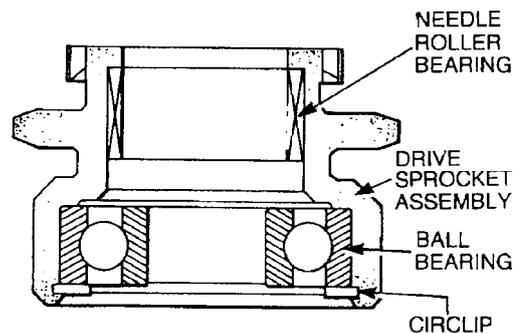

Figure 202 Installing Drive Sprocket Bearings
- h. Press the needle roller and the ball bearing in the drive sprocket and secure the ball bearing with the internal circlip (Figure 202).